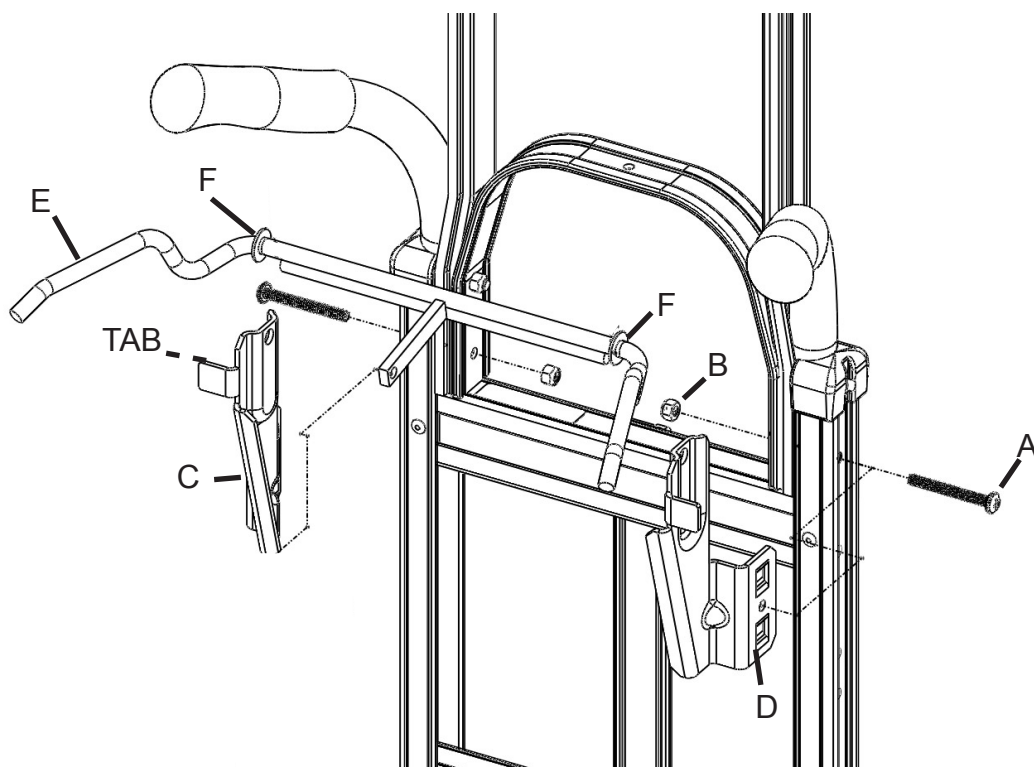

Figure 4
2. Position the LH handle mounting bracket (C) as illustrated in Figure 4 with the tab (TAB) facing away from center of the truck and secure it with a 1/4" x 2 1/4" long pan head machine screw (A) and 1/4"-20 locknut (B).
3. Slide a 3/8" washer (F) on the LH end of the handle actuator (E) and insert actuator through the hole in the LH handle mounting bracket (C) and hold in place. Slide a 3/8" washer (F) on the RH end of the handle actuator then slide the RH handle mounting bracket (D) over the end and slide bracket into place.
4. With the brake actuator handle in place resting on the tabs, assemble the RH handle mounting bracket to the side rail using a 1/4" x 2 1/4" long pan head machine screw (A) and 1/4"-20 locknut (B). Securely tighten the mounting bracket using the #2 Phillips head screwdriver and the 7/16" wrench.